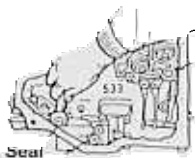

Figure 1
1. Seal Pullers #1, #2 or #3 are designed to be screwed into the appropriate seal with a wrench (**Figures 1 & 2**).